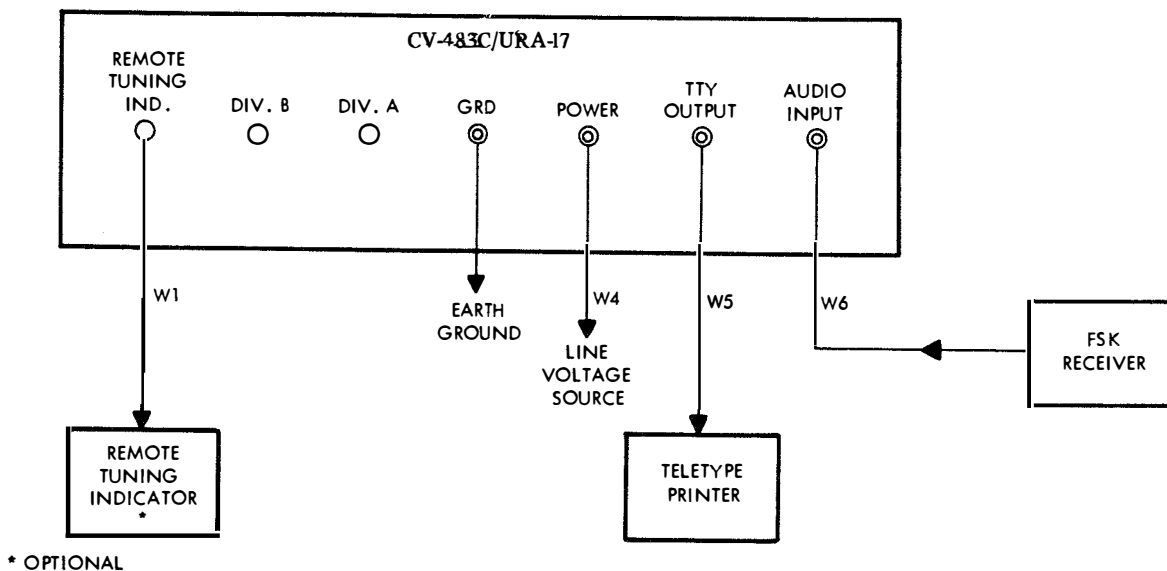

Figure 2-4. Frequency Shift Converter CV-483C/URA-17,
(1) **INTERCONNECTING CABLES FOR SINGLE-RECEIVER OPERATION.** - Table 2-1 lists the required cable and connector information for single-receiver operation of one converter. Figure 2-4 illustrates the interconnection to associated equipment.
* Use in conjunction with figure 2-4.